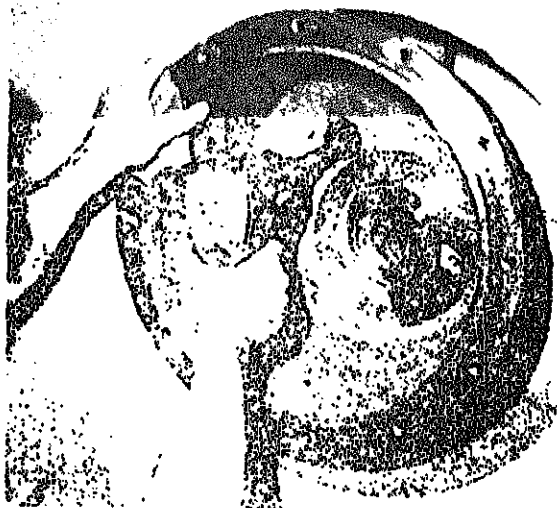

FIGURE 7-89.
b. Align the capscrew mounting holes of the bearing carrier flange with those of the drum flange. This can be done through the access hole in the back surface of the motor housing. Coat capscrews with John Crane number 2 seal. Insert capscrews and torque per specifications (see figure 7-89). Torque C350B capscrews to 130 ft.-lbs. (17.98 kg-m).